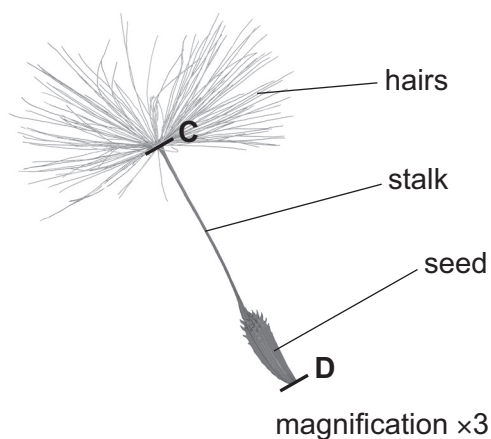

Fig. 3.1
- 3 Fig. 3.1 shows the whole of a one-seeded fruit of a dandelion flower. A single dandelion flowerhead can produce up to 200 of these one-seeded fruits. The mass of a single fruit is 0.0005 g.
- (a) (i) In the space below make a large drawing of the whole fruit as it appears in Fig. 3.1.
- (ii) The lines **C** and **D** indicate the total length of the seed and stalk. Draw a straight line on Fig. 3.1 to join **C** and **D**. Measure the length of the line and record it.